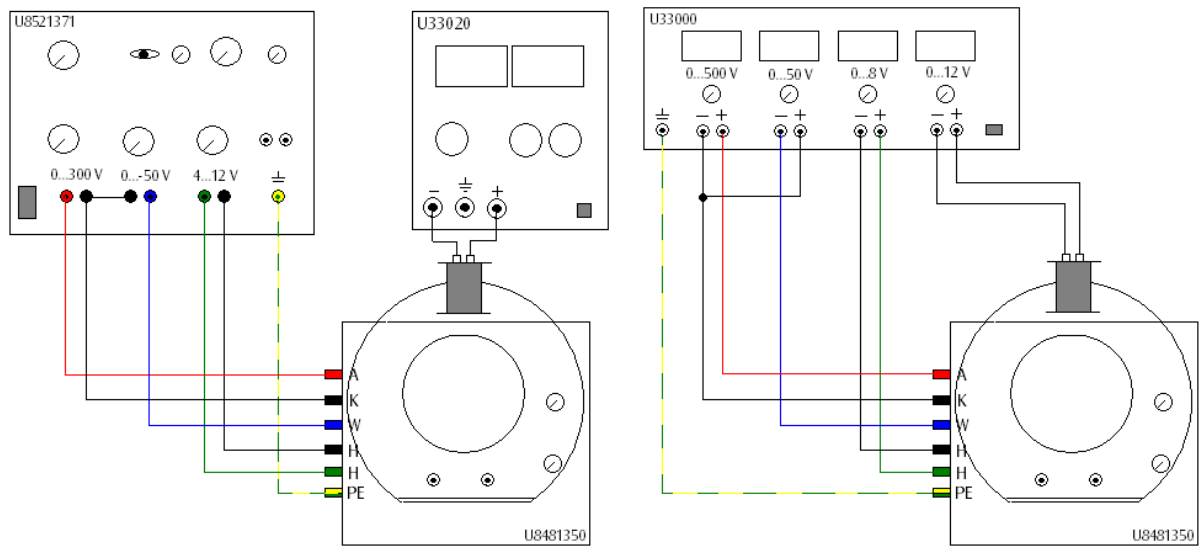

Fig.3 Magnetic deflection of the electron beam (left: with power supply U8521371 and power supply U33020, right: with power supply U33000)
- Set up the experiment as in fig. 3.